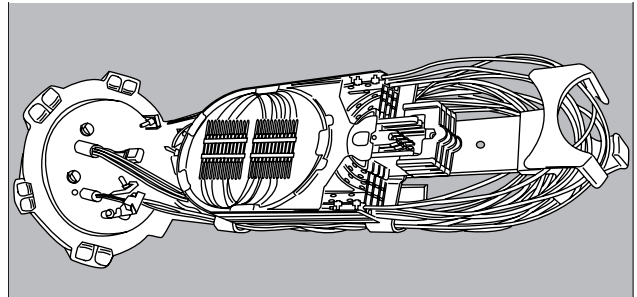

FIGURE 25
25. The completed splice is now ready for the fitting of the FibreGuard Closure Dome. (Figure 25) See Installation Procedures for FibreGuard Closures.